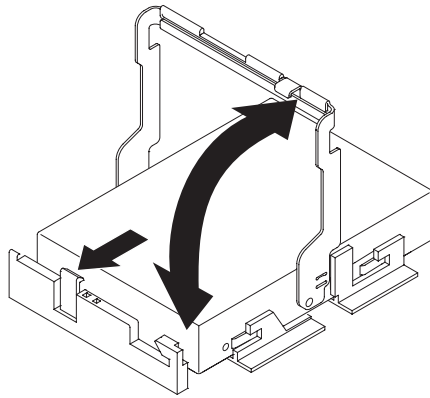

Figure 73. Raising the drive handle
- Raise the drive handle to the vertical position, as shown in Figure 73 on page 115.